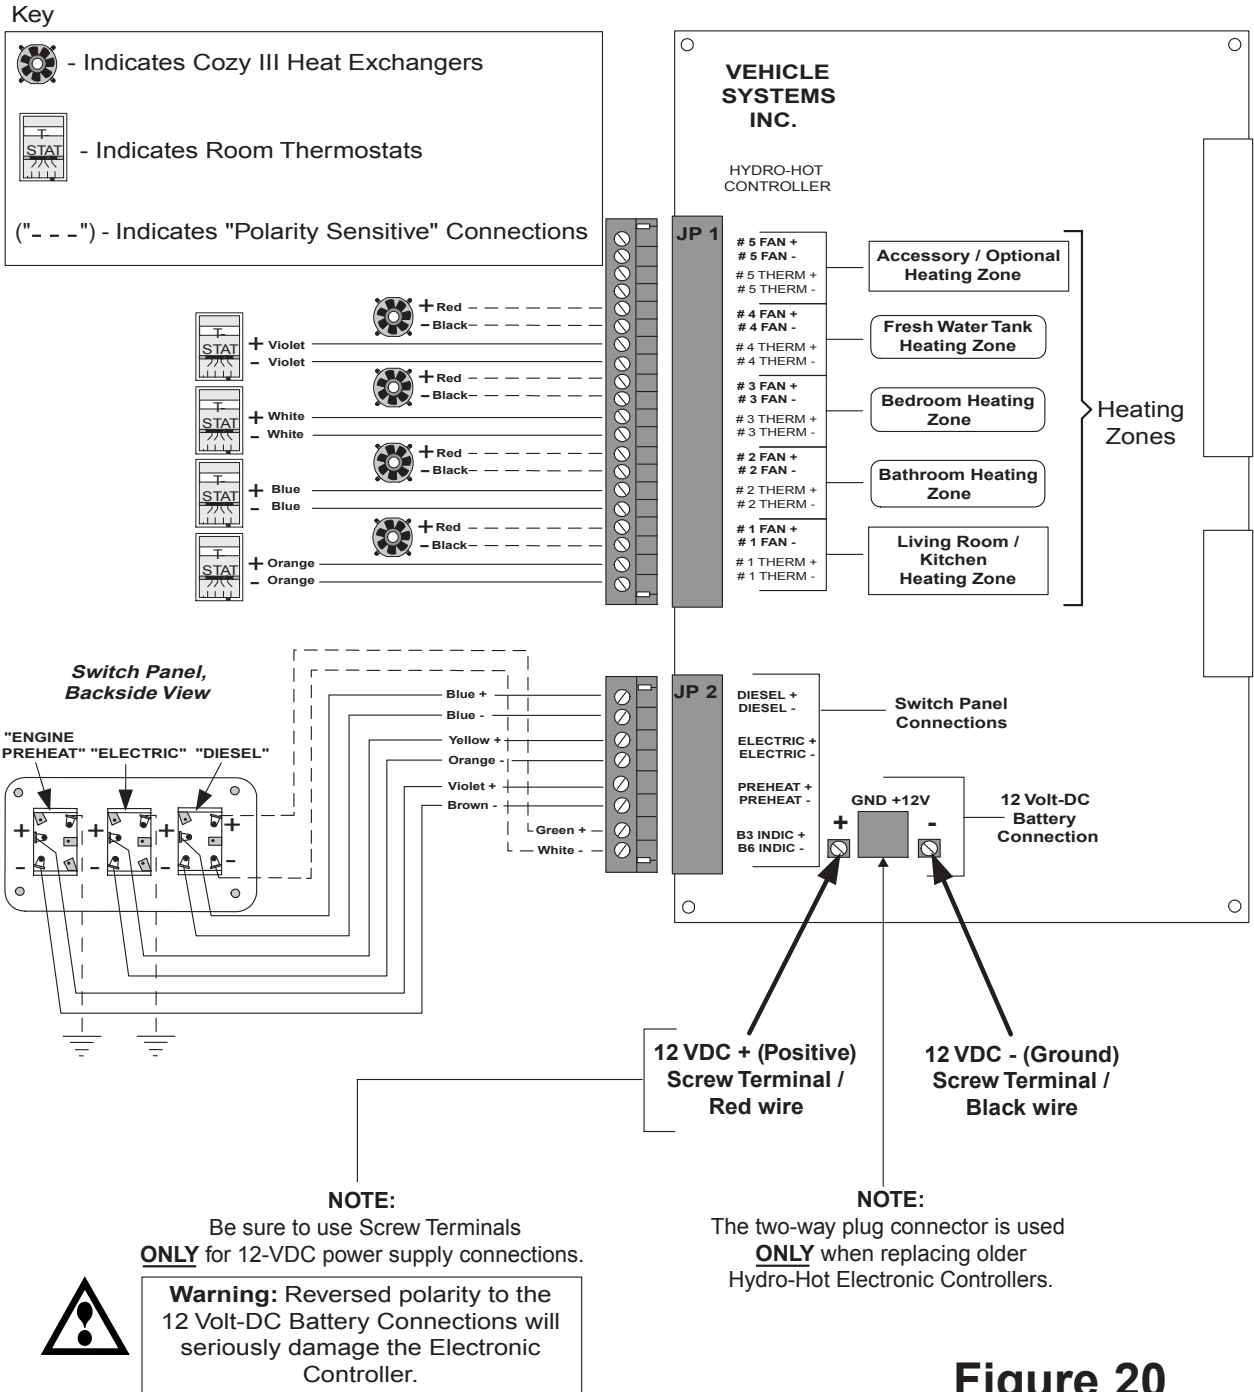

Figure 20
The Hydro-Hot utilizes an Electronic Controller to monitor specific heater activities, supply electrical power to specific internal and external components, and control the overall operation of the heater. The following are important installation details regarding the Electronic Controller. Please read this section thoroughly and reference Figure 20 for specific details.
- A. The dashed lines of Figure 20 indicate **Polarity Sensitive** wiring and the solid lines indicate **NON-Polarity Sensitive** wiring.
- B. All Electronic Controller Thermostat and Switch connections illustrate a "(+)" and "(-)" symbol with solid lines. The "(+)" symbol indicates a positive 12-VDC **output** to a particular Thermostat or Switch, while the "(-)" symbol indicates a positive 12-VDC **input** signal from a particular Thermostat or Switch. The 12-VDC **output** signal is always present as long as the Electronic Controller is powered by a 12-VDC Power Source while the 12-VDC **input** signal is only present whenever a Switch is activated or whenever a Thermostat is "calling-for-heat", see Figure 20.
- E. All Switch connections are to be wired directly to the Hydro-Hot's "Switch Panel Connections", see Figure 20 and 23. Both the "B3 INDIC +" and the "B6 INDIC -" connections are reserved electrically for the "Diesel" Switch connections **ONLY!**
- G. Be sure to use the wire colors illustrated in Figure 20. This will ensure installation consistency, differentiate the separate Heating Zones, and assist Service Personnel with troubleshooting.
3. Insert all Heat Exchanger wires into the appropriate terminal / heating zone location on the Electronic Controller, (e. g. " # 4 FAN + / # 4 FAN -", for the Fresh Water Tank Heating Zone, etc. . .), see Figure 20.
NOTE: Be sure to use the wire colors illustrated in Figure 20. This will ensure installation consistency, differentiate the separate Heating Zones, and assist Service Personnel with troubleshooting.
2. Insert all interior Room Thermostat wires into the appropriate terminal / heating zone locations on the Electronic Controller, see Figure 20.
2. Insert both Thermostat wires into the appropriate terminal / heating zone locations on the Electronic Controller, see Figure 20.
NOTE: Be sure to use the wire colors illustrated in Figure 20. This will ensure installation consistency, differentiate each separate Switch and assist Service Personnel with troubleshooting.
5. Insert all Switch wires into the appropriate terminal / "Switch Panel Connections" on the Electronic Controller, see Figure 20.